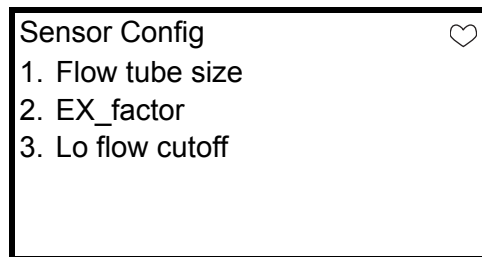

Figure 18 Transmitting the setting
- Once returning to the Sensor Config menu, select F2 (SEND) to transmit the change to the converter. The HART[®] Communicator mark will appear in the upper right hand corner while HART is communicating with the device. (Figure 18) The mark will disappear once communication is properly completed.
- After returning to the Sensor Config menu, select F2 to transmit the change to the converter. The HART[®] Communicator mark will appear in the upper right hand corner while HART is communicating with the device. (Figure 18) The mark will disappear once communication is properly completed.
3. After returning to the Puls outp config menu, select F2 (SEND) to transmit the change to the converter. The HART[®] Communicator mark will appear in the upper right hand corner while HART is communicating with the device. (Figure 18) The mark will disappear once communication has been properly completed.